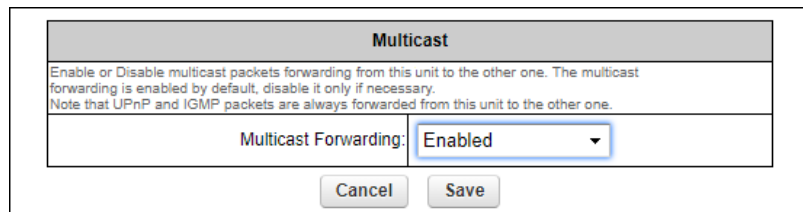

Figure 42. Multicast dialog (Bridge mode)
2. Click the **-multicast** link under **ADVANCED SETTINGS** in the left-hand settings menu (Figure 42 (page 102)).